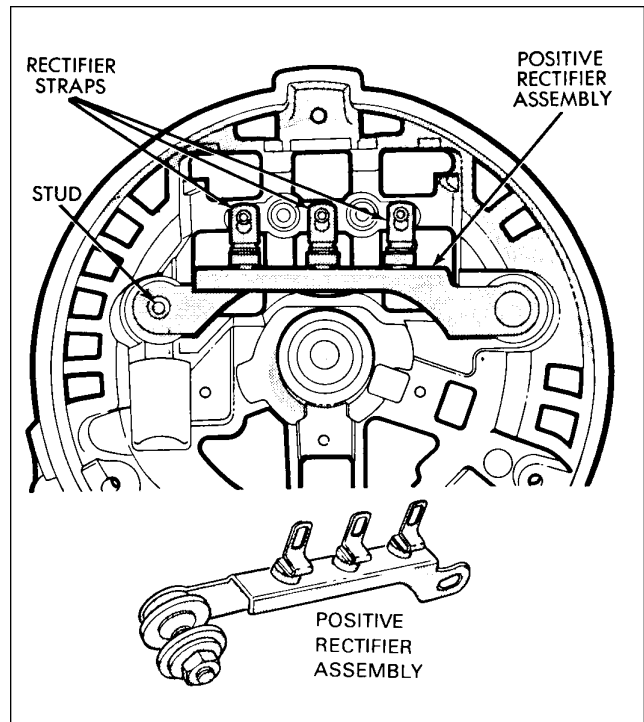

Figure 24-23. Installation of Positive Rectifier Assembly
8. Install the positive heatsink assembly by placing the battery terminal through the round plastic insulator and the capacitor end over the heatsink mounting stud. Ensure the three rectifier straps are over the studs on the terminal block. (Refer to Figure 24-23.)